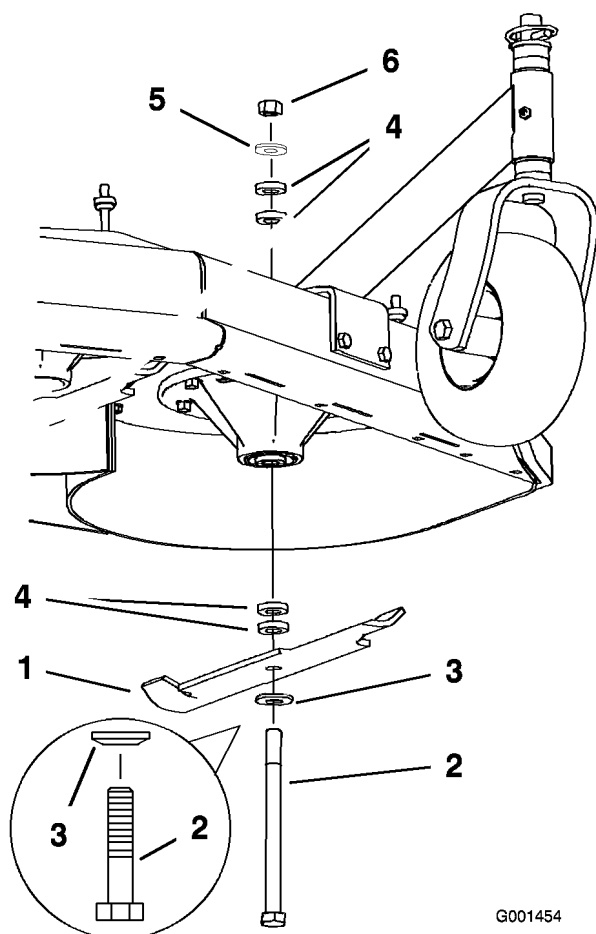

Figure 60
2. Remove the nut, blade bolt, curved washer, blade, spacers, and thin washer from the spindle (Figure 60).
1. Install the bolt, curved washer, and blade. Select the proper number of spacer(s) for the height-of-cut, and slide the bolt into the spindle (Figure 60).
2. Install the remaining spacer(s) and secure them with a thin washer and a nut (Figure 60).